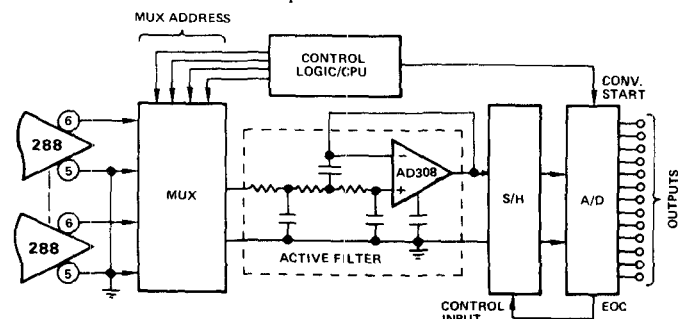

Figure 7. Applying Active Filter in Isolated Data Acquisition System to Select Bandwidth, Reduce Input Noise to A/D Converter and Increase CMR to 140dB @ 60Hz
**Noise Reduction in Data Acquisition Systems:** In multichannel data acquisition systems using a multiplexer to select sequentially the channel for A/D conversion, a filter can be easily applied to reduce the input noise and select the channel bandwidth. As illustrated in Figure 7, a single 3-pole active filter is inserted at the mux output.